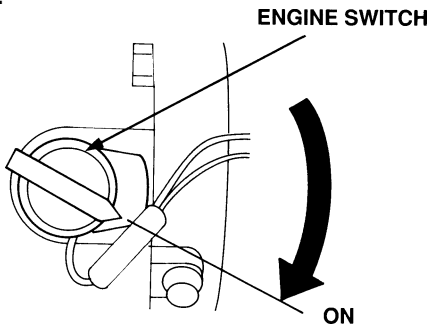

Figure 13. Engine ON/OFF Switch (ON Position)
- Place the **engine ON/OFF switch** (Figure 13) in the "**ON**" position.